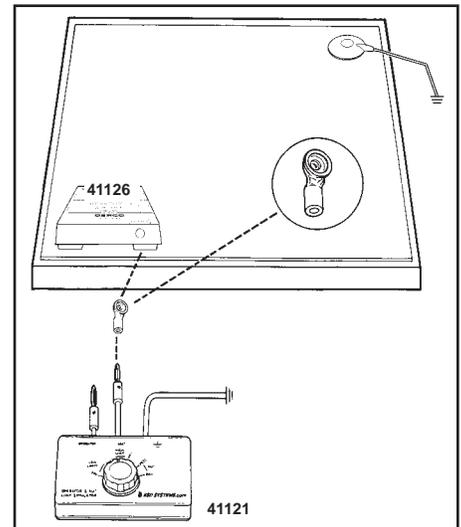

Figure 9. Testing 41126 work surface PASS AND FAIL.
Step 2: Connect the 12149 adapter to the banana plug marked “Mat” on the calibration unit. Disconnect the 41126 from the mat and re-install to calibration unit’s adapter. See figure 9.